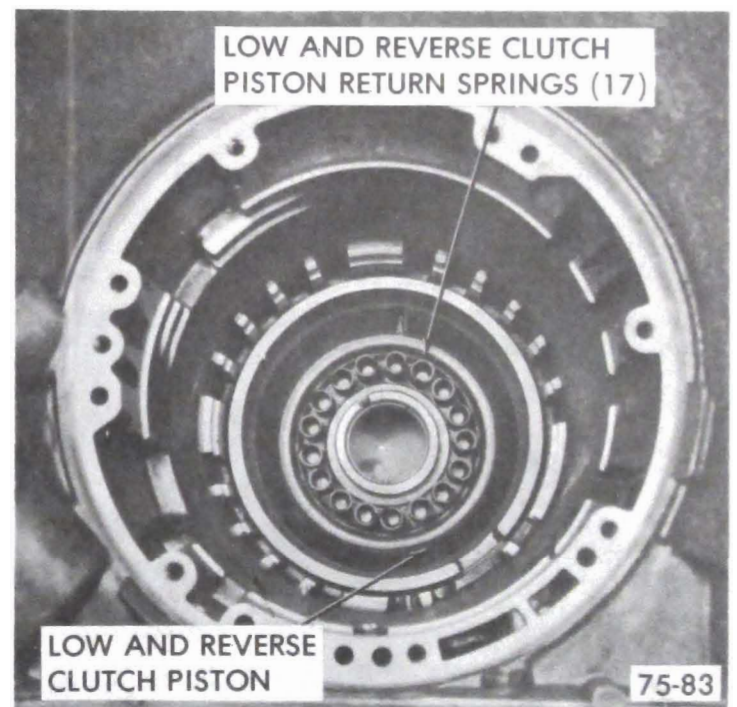

Figure 75-225
4. Install seventeen (17) piston return (coil) springs. See Figure 75-225. Return springs are orange in color.